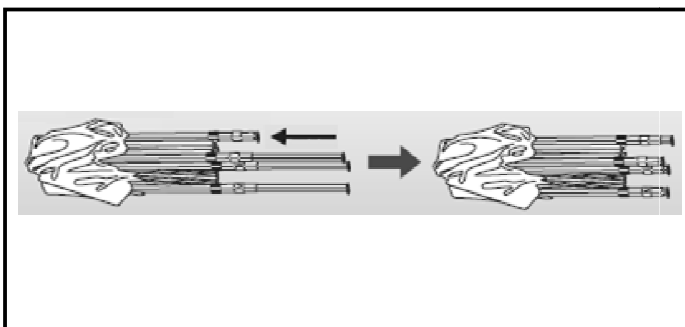

Fig. 13
6. Push inward one of the levers located inside of the legs, release the safety pin, and slide the leg upward into the top portion of the leg. Repeat for the remaining legs. (*see Fig. 13*)